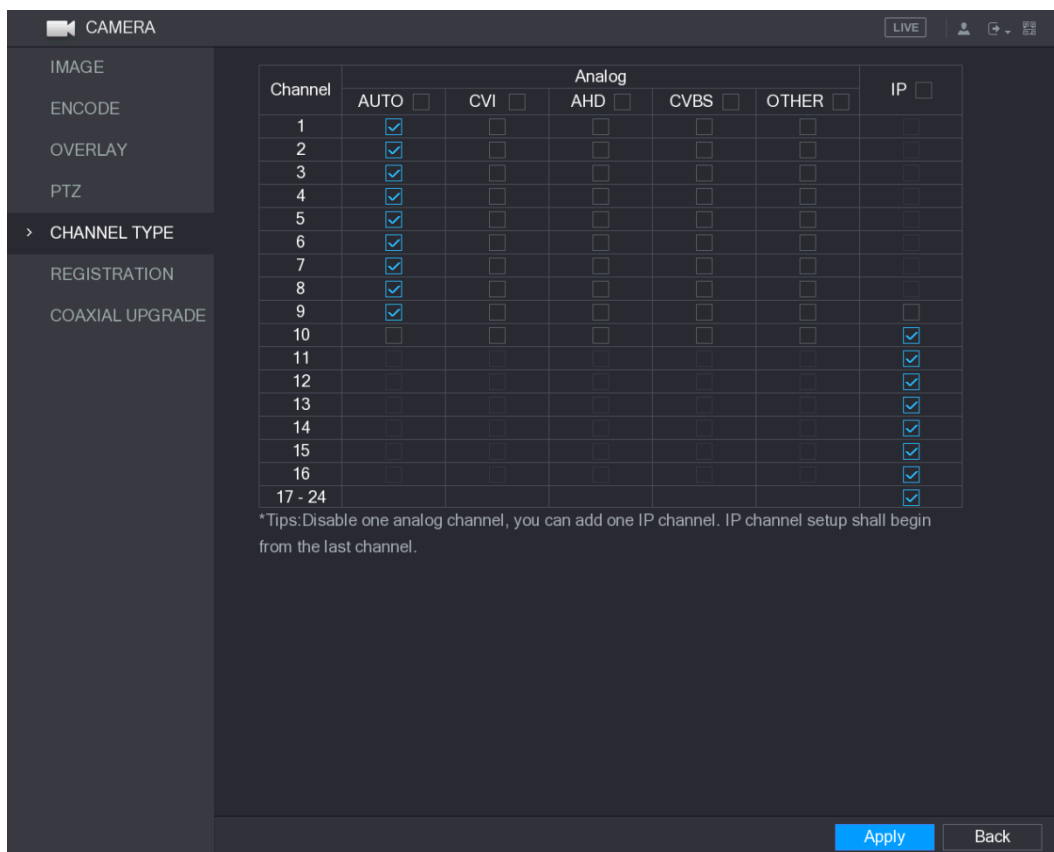

Figure 5-68
The **CHANNEL TYPE** interface is displayed. See Figure 5-68.
- IP Channel: You can enable the IP channels by disabling the corresponding analog channels. The Device also provides expanded IP channels for your use, such as the **17–24** channels in Figure 5-68.